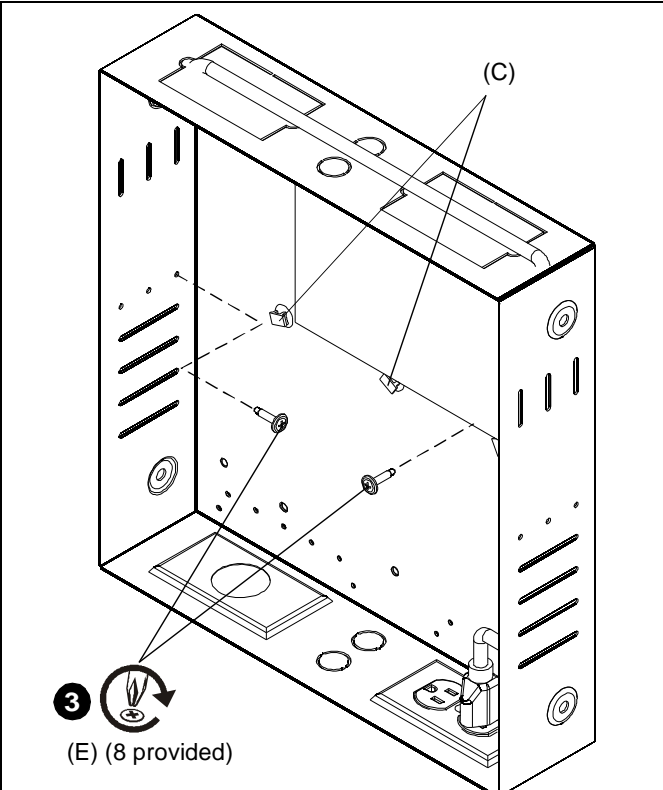

Figure 5
3. Secure accessory to box using Phillips screwdriver and as many 1/8-18 x 3/4" mounting screws (E) as required. (See Figure 5)
4. Use the wire tie clips (C), as necessary, for cable management. (See Figure 5)